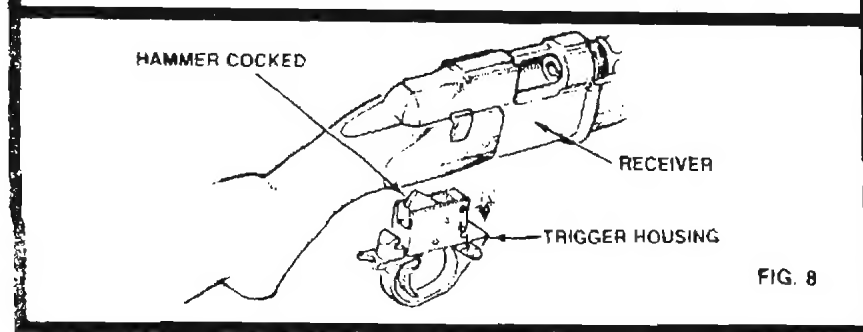

FIG. 8
- (A) Ensure the bolt is back in its locked open position.
- (B) To install the trigger housing the hammer must be cocked first (see Fig. 8) and make certain that the safety is "ON". To cock the hammer simply push down on the hammer with your thumb until it locks into the cocked position.
- (C) Insert the trigger housing into bottom of receiver until trigger guard is flush with receiver and tap forward until detent button pops into position, locking housing in place.